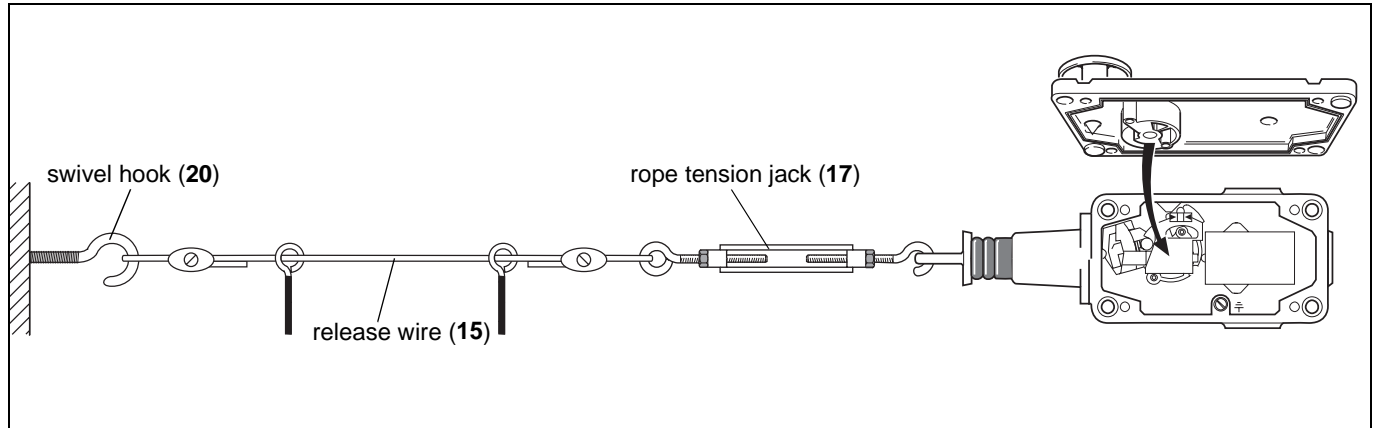

Fig. 5-6: Tightening the emergency cord switch
**The release wire (15) should be tightened in such a way, that it is visible along its entire length.**
Tighten the release wire (15) as follows (see fig. 5-6 and 5-7):
- Preload the emergency cord switch by means of the rope tension jack (17) or the swivel hook (20), until the black marker in the setting field (11) is positioned between the two arrows.